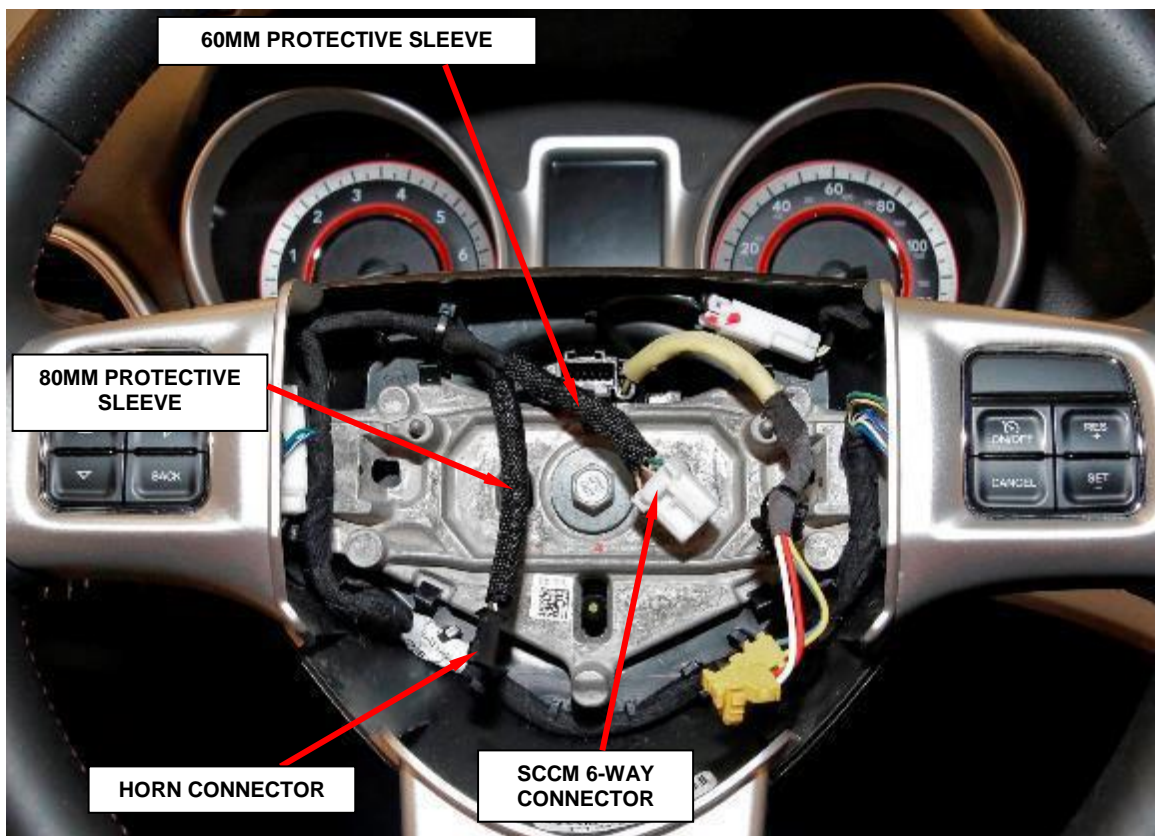

Figure 6 – Install Protective Sleeves
12. Install the provided 60mm protective sleeve over the SCCM six-way electrical connector pigtail (Figure 6).
13. Install the provided 80mm protective sleeve over the horn connector pigtail (Figure 6).